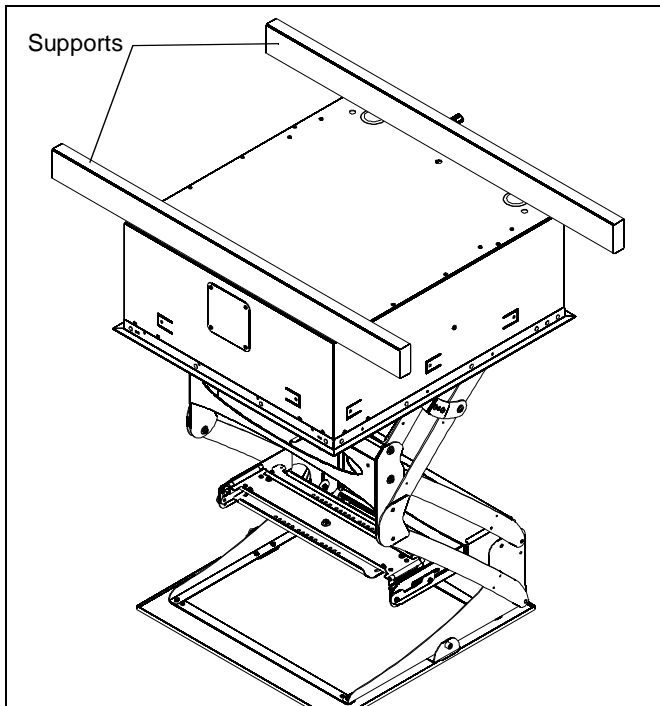

Figure 1
2. Attach supports (not provided) to the top of lift. (See Figure 1)